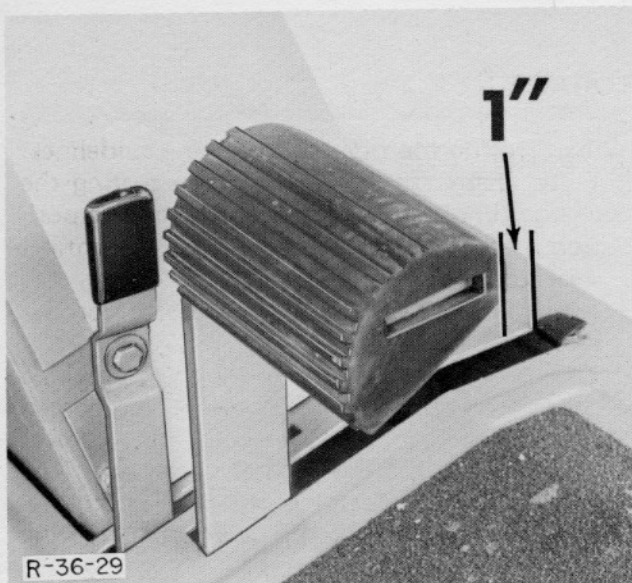

Figure 15
1. Depress the clutch/brake pedal to within 1 inch of full depression (to be measured at the opening in front of the pedal), Fig. 15.